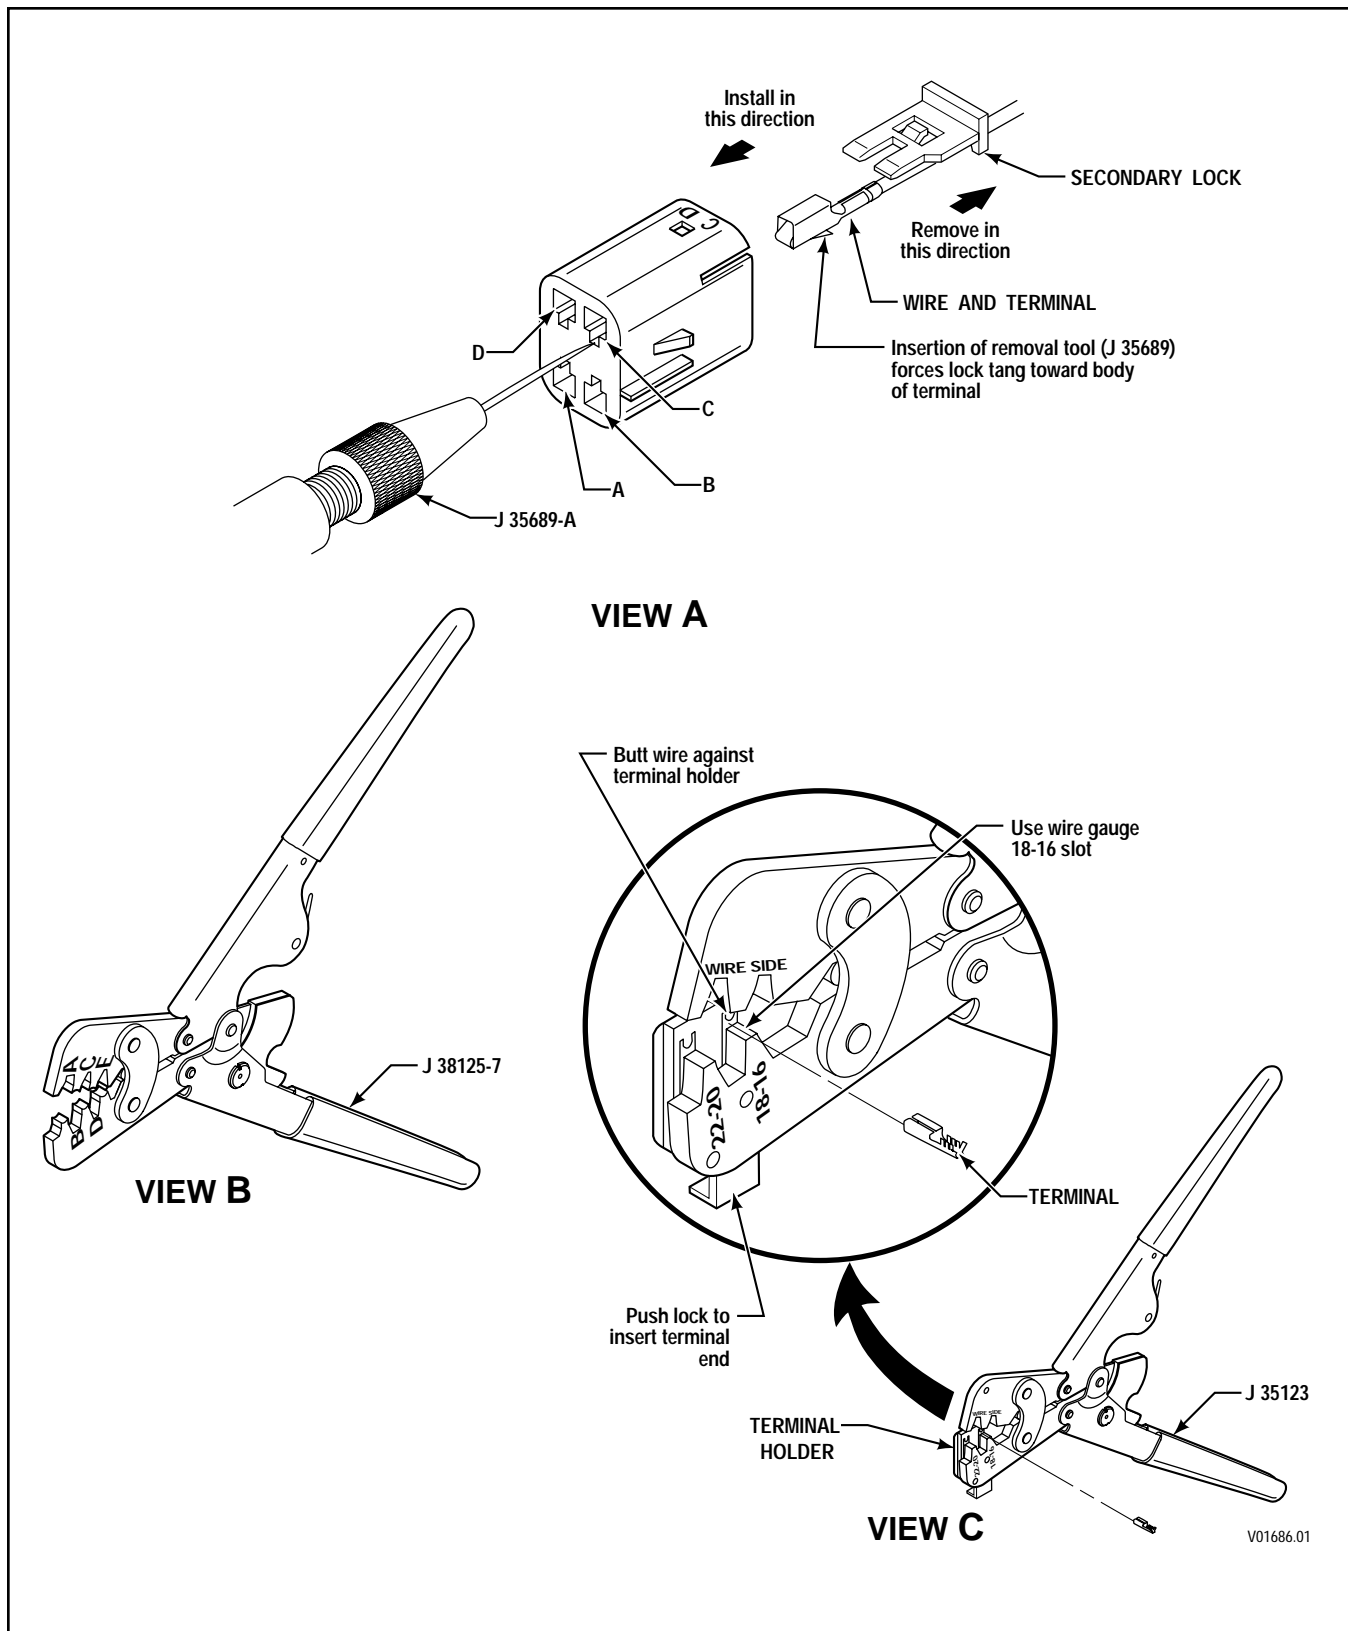

Figure E-3. Delphi-Packard Metri-Pack 150 Series Connectors — Push-to-Seat (Oil Level Sensor)
2. Insert needle end of terminal remover J 35689-A into the small notch between the connector and the terminal to be removed (Figure E-3, View A). Push the lock tang toward the terminal.
2. Place core crimp portion of terminal on bed of anvil “E” and squeeze crimper enough to keep terminal from dropping (Figure E-3, View B).